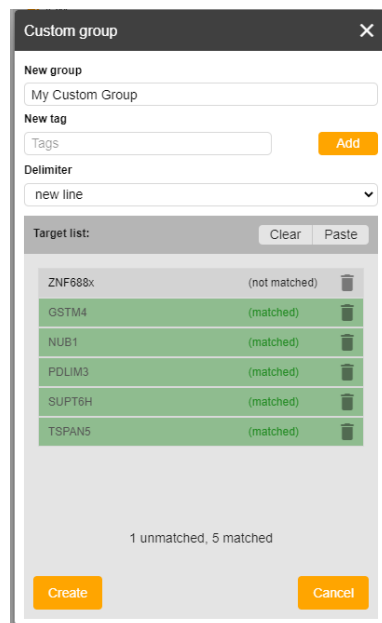

Figure 69: Add new group window
1. Navigate to the **Manage Groups** window (via the gear icon) in the Target Groups window (see Figure 69).